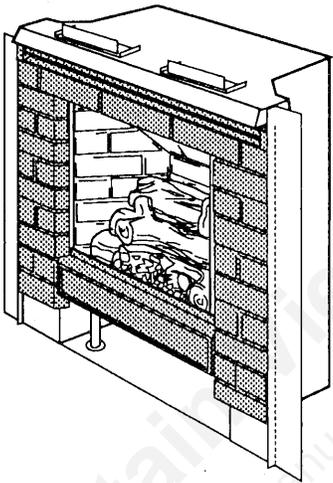

Figure 13. Replace the Brick Panels/Control Door Assembly.
Step 9. Re-install the cast iron brick panels on the hanger holes in the Cabinet front. Fig. 13.